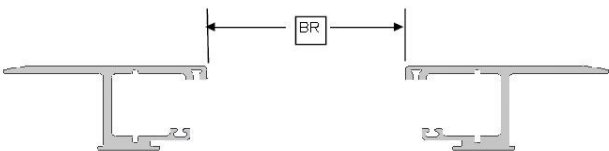

FIG. 4A
Finally, check for proper spacing by measuring between the rails at the canister and the tailgate end of the rails (Fig 4A). The measurement should be equal to less than those in Fig 4B. The Rail Brackets and Shims have been pre-installed to achieve the proper Between the Rail dimensions (BR) when placed on an average factory truck bed. However, not all truck beds are average dimensionally and some have optional plastic caps or over the rail spray-in bedliners.
Run the adjusting bolt inward toward the bed wall, putting some pressure on the foot, then continue running the bolt inward using the knob until the rail is visually level. The adjusting bolt can be removed and the base flipped 180 degrees to adjust for varying clearance with the bed wall (FIG. 6D). Verify the BTR dimension after the rails are leveled (STEP 4, FIG 4A & 4B).